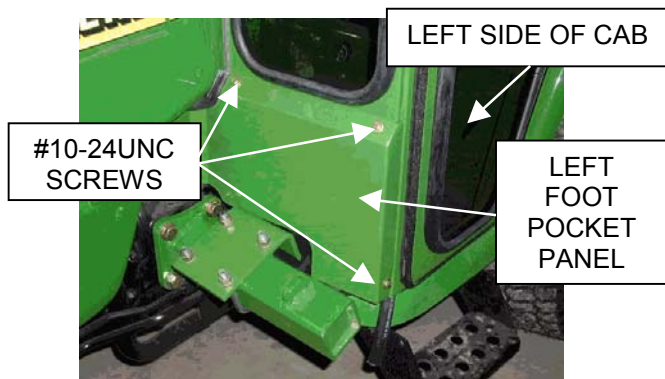

Figure 20
- 20) Attach left foot pocket panel #8-14379 and right foot pocket panel #8-14378 using (8) #10-24unc x 5/8" long bolts. See Figure 20.